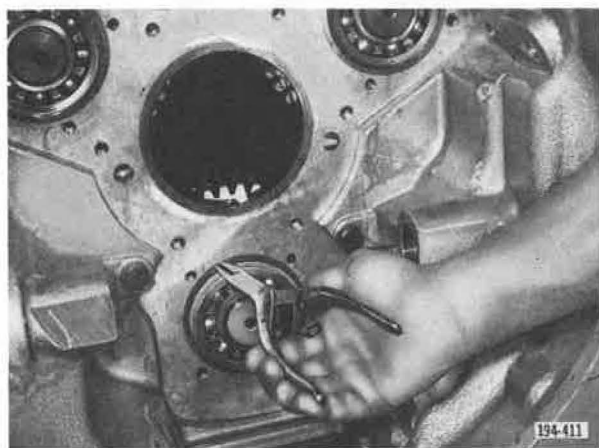

Figure 5-268. Removing Snap Ring
16. Remove countershaft front bearing positioning snap rings, using snap ring pliers J-25445 or equivalent. See Figure 5-268.